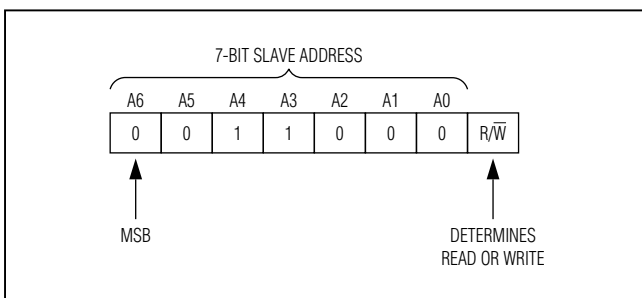

Figure 8. DS2484 Slave Address
**Figure 8** shows the slave address to which the DS2484 responds. The slave address is part of the slave address/control byte. The last bit of the slave address/control byte ( $R/\overline{W}$ ) defines the data direction. When set to 0, subsequent data flows from master to slave (write access mode); when set to 1, data flows from slave to master (read access mode).